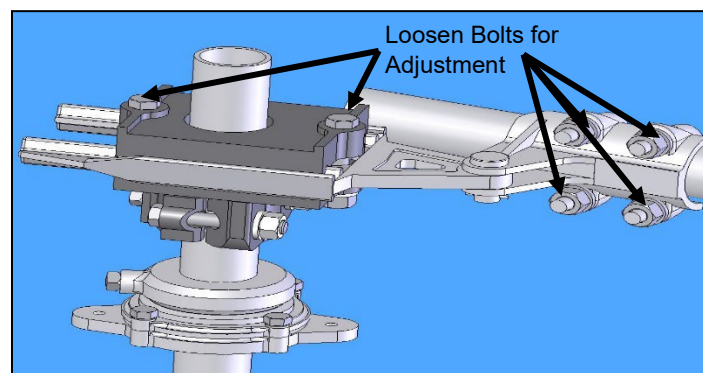

Figure 13: Adjustable Arm Assembly
5.4.2.3. Loosen the adjustable arm and clevis bolts as shown in **Figure 13**.